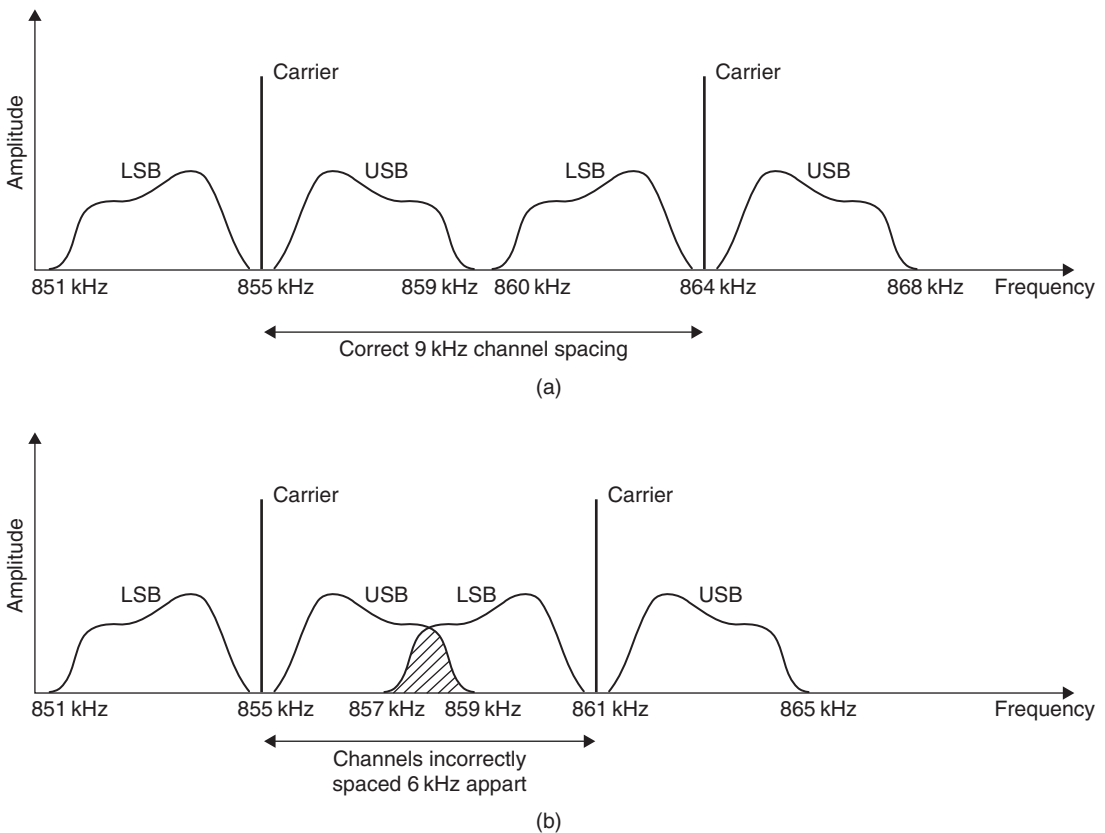

Figure 16.13 (a) Correct separation of carrier waves, and (b) the sidebands overlap, causing adjacent-channel interference
Unfortunately, in many parts of the developed world, including Western Europe, there are many transmitters operating on the medium-wave (MW) frequencies. Reasonable reception is made possible, partly by limiting the bandwidth of modulation to 4.5 kHz (which makes the transmission of high-quality sound impossible) and partly by international agreement on the frequency and power output of individual transmitters. Pirate transmitters do not observe these agreements, and are therefore always a cause of interference. Note that in the USA the domestic channel plan uses 10 kHz spacing, but international transmissions such as Voice of America must comply with the 9 kHz international band plan. Figure 16.13(b) shows a typical spectrum of overlapping sidebands caused by transmitter frequencies being too close, which indicates how adjacent channel interference (ACI) arises.